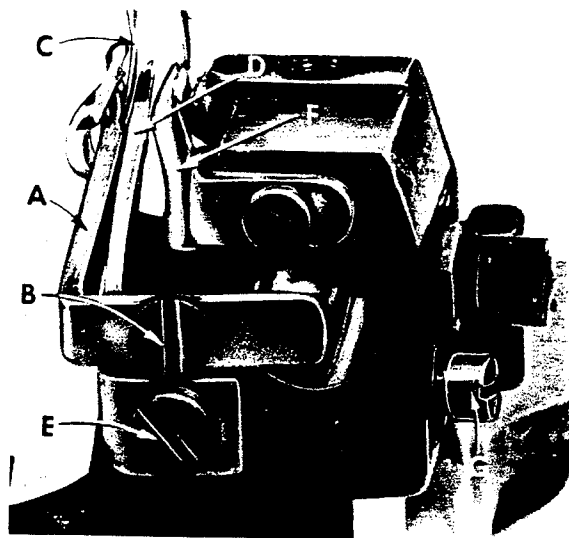

Fig. 5
Set the rear needle guard (A, Fig. 5) as high as possible without interfering with either the lower spreader or movement of the lower knife holder, but still in position to deflect the needle forward .002 to .004 inch. Screw (B) is used to set rear needle guard. Make sure there is no interference between rear needle guard and lower spreader.
Now complete the lower spreader adjustment. As lower spreader moves to the right its point should be set into the needle scarf (C, Fig. 5) until the needle springs forward from the rear needle guard surface another .002 to .004 inch. This setting
Assemble front needle guard (D, Fig. 5). When lower spreader is springing needle off rear guard, set the front needle guard as close as possible to the needle without touching. Screw (E) is used to adjust and set the front needle guard. After making this setting, assure there is no interference between needle guards and differential feed dog.
Insert rear needle guard into the hole in the throat plate support bracket. Set height of guard (F, Fig. 5) approximately  $\frac{3}{16}$  inch below the throat plate seat. Bring the 401 needle down until its point is  $\frac{1}{64}$  inch below the widest portion of the guarding surface. Then bring the guard forward to deflect the needle forward